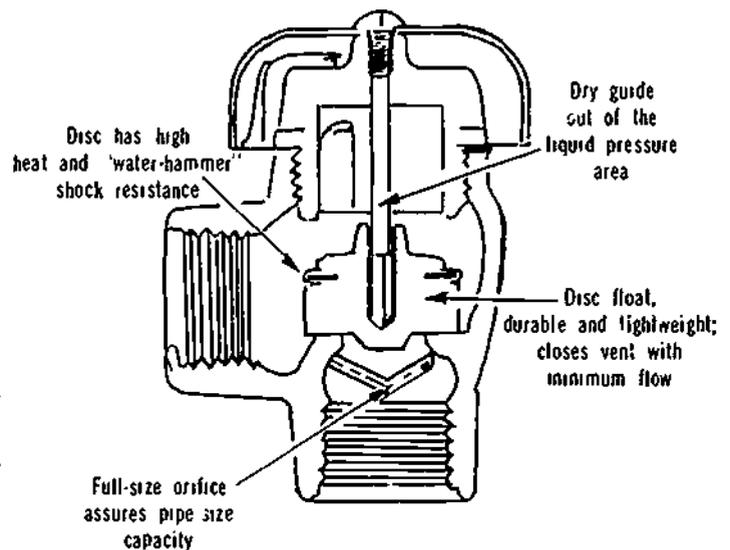

Figure 30-1. Atmospheric Type Vacuum Breaker
- a) Atmospheric Type (See Figure 30-1).